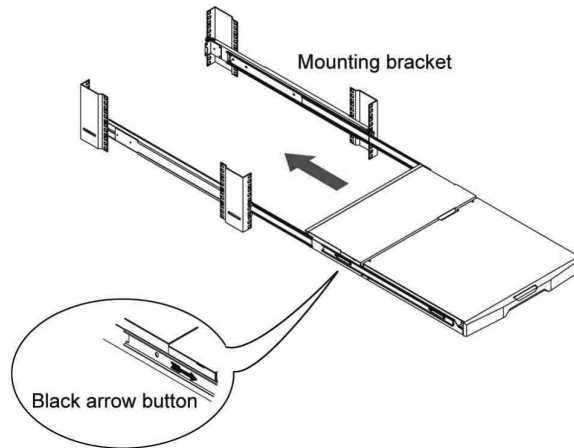

Figure 3-2. Inserting the rack tray.
- 3 Insert the rack tray assembly into the mounting brackets. See Figure 3-2.